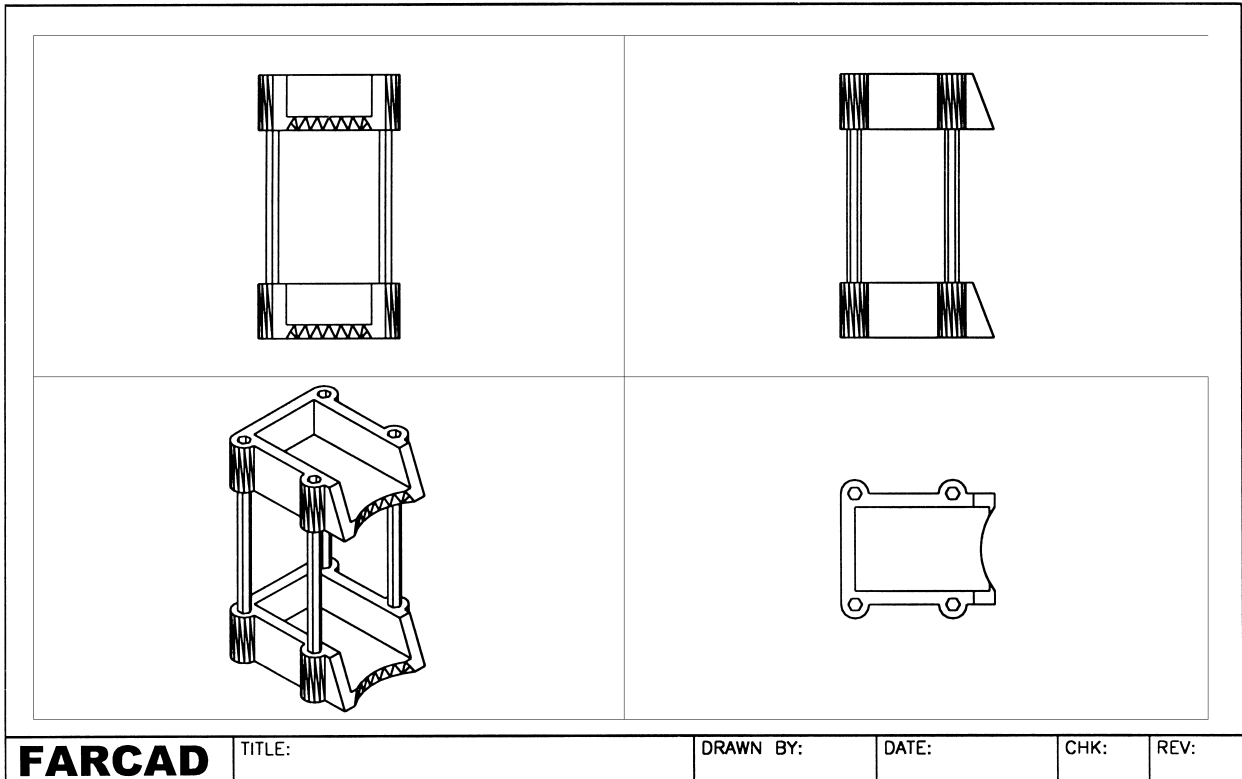

Figure 42.2 Compared desk tray assembly model.
- 4 Figure 42.2 displays the four viewport configuration of the completed model assembly.